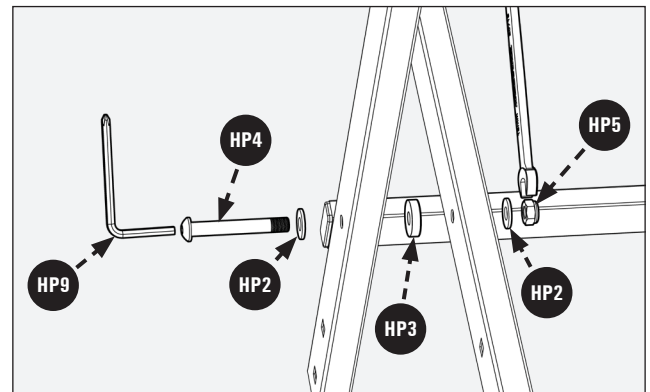

FIGURE 2
2. Using the supplied 4mm Combination Allen Wrench (HP9) and 13mm Combination Wrench (Not Supplied), secure Stand Assembly with M8 x 65mm Hex Socket Head Screw (HP4), M8 Plastic Spacer (HP3), 2 Flat Washer 8mm x 14mm x 1.5T (HP2), and M8 Lock Nut (HP5). See Figure 2. Repeat this for other side.